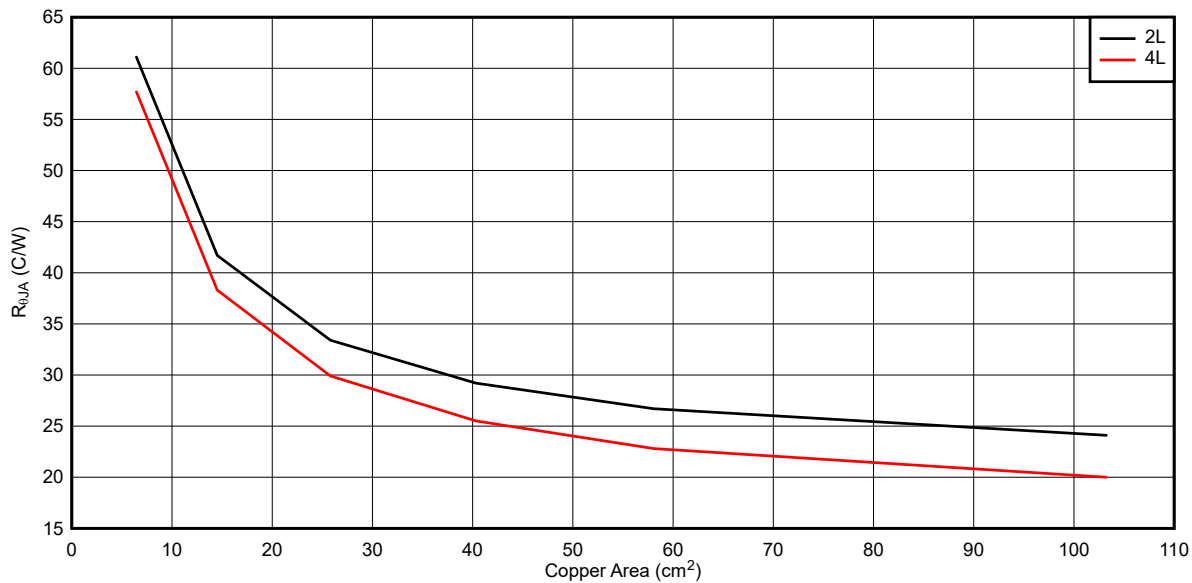
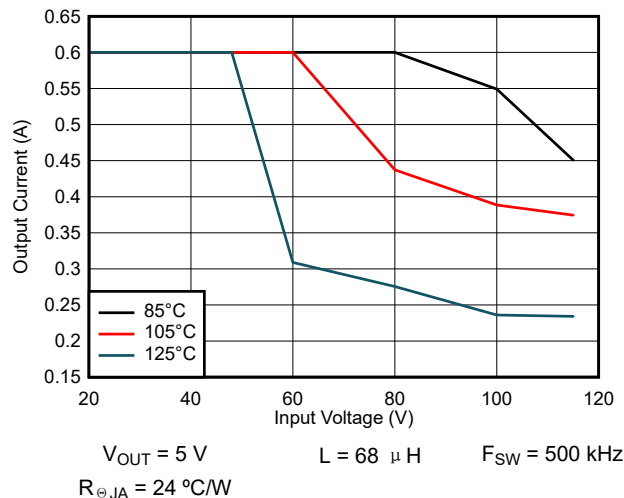
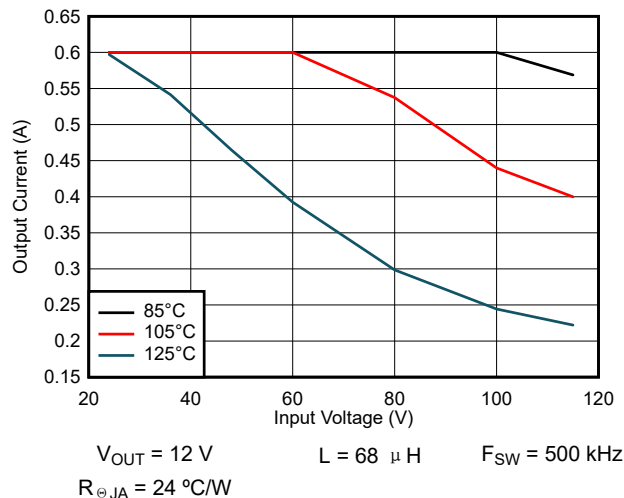

图 9-33. Typical $R_{\theta JA}$ Versus Copper Area
图 9-34. Maximum Output Current: VOUT = 5 V
图 9-35. Maximum Output Current: VOUT = 12 V
The LM516x-Q1 features a die attach paddle, or "thermal pad" (EP), to provide a place to solder down to the PCB heat-sinking copper. This provides a good heat conduction path from the regulator junction to the heat sink and must be properly soldered to the PCB heat sink copper. Typical examples of $R_{\theta JA}$ can be found in Figure 9-33. The copper area given in the graph is for each layer. The top and bottom layers are 2-oz copper each, while the inner layers are 1 oz.
The data in Figure 9-34 and Figure 9-35 can be used as a guide to determine the maximum output current for a given set of conditions. The particular conditions under which these graphs were taken are indicated in the notes below each graph.
Remember that the data given in 图 9-33 through 图 9-35 is for illustration purposes only, and the actual performance in any given application depends on all of the previously mentioned factors.